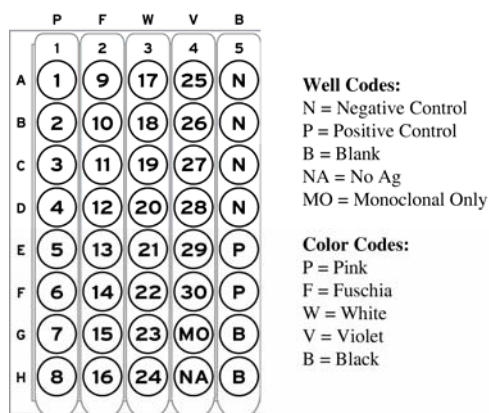

Figure 1
8. Add 50 μL of the appropriate diluted control or sample to the wells as designated in figure 1. Add patient serum to all numbered wells and to the NA and MO wells.